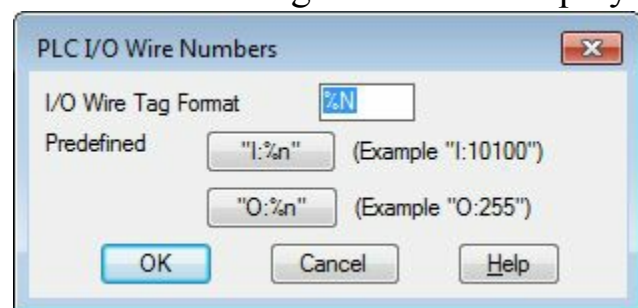

Figure-29. PLC I O Wire Numbers dialog box
- Click on the **PLC I/O** tool from the **Wire Numbers** drop-down in the **Ribbon**. The **PLC I/O Wire Numbers** dialog box will be displayed as shown in Figure-29.